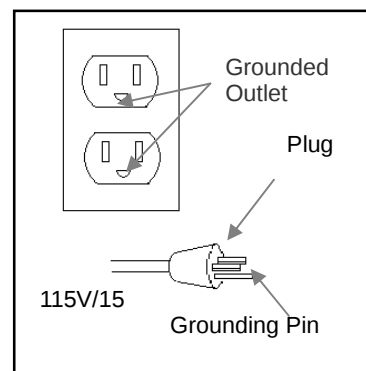

Figure 1
- J. POWER CORD:** This product is for use on a nominal 120-volt circuit and should be grounded. A cord with a grounding plug must be used. Make sure that the product is connected to an outlet having the same configuration as the plug (see Figure 1). No adapter should be used with this product.